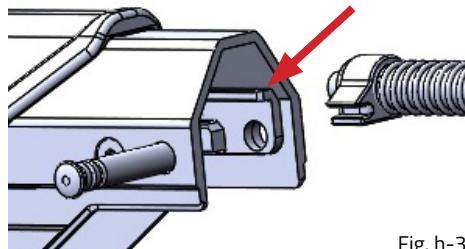

Fig. h-3
4. Ensuring the bolt head is fully forward, install the bolt carrier assembly into the back of the MDR upper receiver first ensuring the charging handle is forward. Next, align the slots of the operating rod guide with the MDR upper receiver operating guide rod channels as well as the bolt carrier slot alignment with the upper receiver channels just below them, then seat the bolt carrier group fully forward. (Fig. h-3)